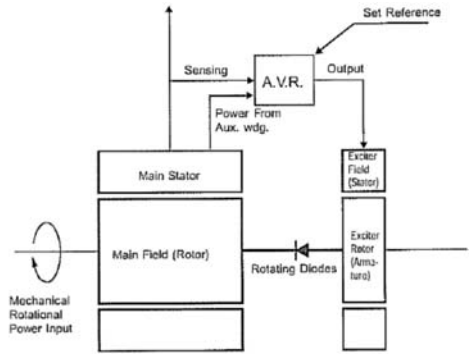

Figure.12.1. Meccalte alternator, operating principles block schematic diagram
The electrical power produced by the generating set is derived from a closed loop system consisting principally of the exciter rotor the main revolving field and the automatic voltage regulator (see Figure 12.1) The process begins when the engine starts to rotate the internal components of the alternator. The residual magnetism in the main rotor produces a small alternating voltage (AC) in the main stator. The automatic voltage regulator rectifies this voltage (converts it to DC) and applies it to the exciter stator.